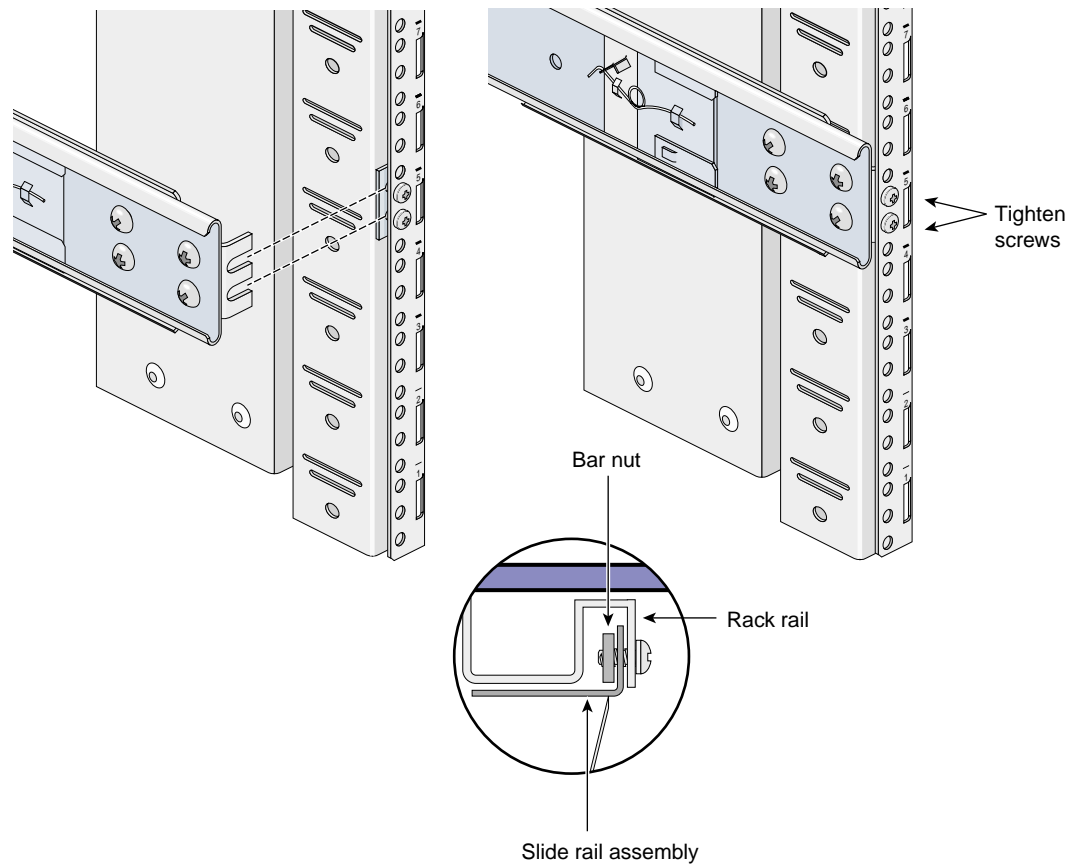

Figure C-11 Attaching the Slide Rail to the Rack
5. Insert the front and rear brackets of one of the slide rails between the rack rails and the bar nuts, as shown in Figure C-11.